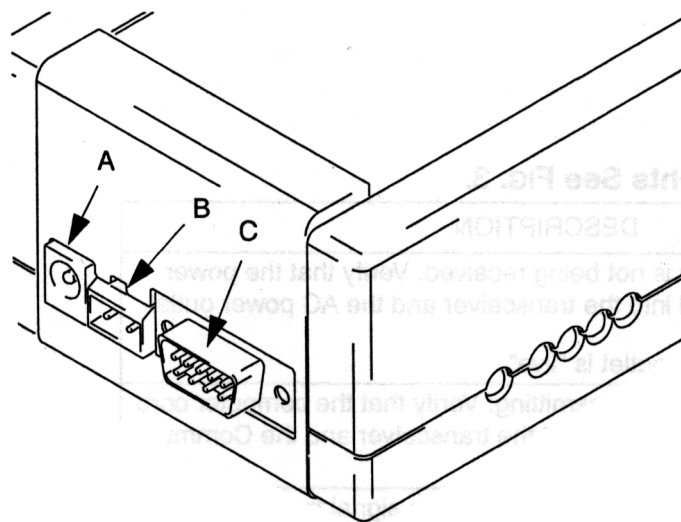
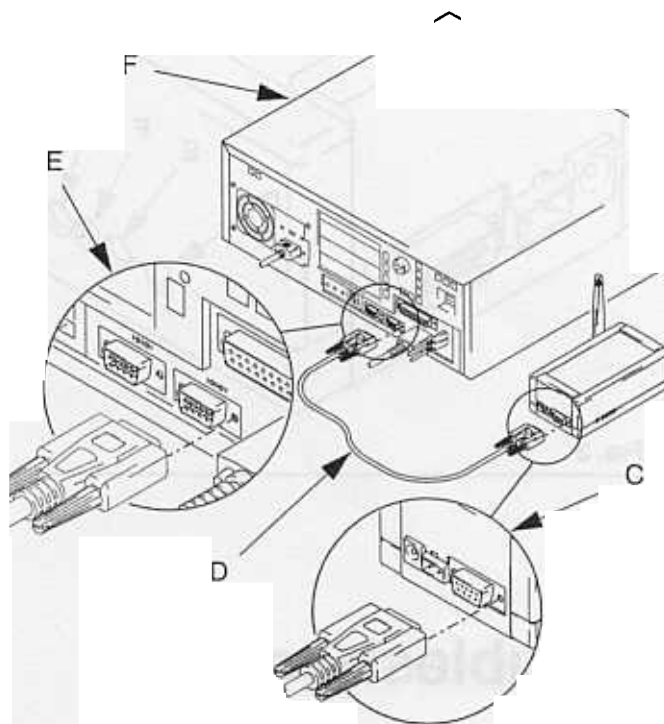

FIG. 1
FIG. 2
Plug the PC Receiver into a 110 VAC grounded outlet and into the power outlet of the repeater or wall buster (A). See Fig. 1.
2. Plug the power cord into the transceiver power inlet (A) and into a grounded 120V AC power source. The green power light (D) will illuminate indicating the transceiver is on. See Fig. 1.
1. Plug the PC (D) cord into an open communications port (E) of the PC (F) running the Matrix software. See Fig. 2.
2. Insert the transceiver end of the cord (D) from the PC into the PC transceiver plug (C). See Fig. 1 and Fig. 2.
**NOTE:** if necessary the wall buster port (B) of the transceiver can be wired to a corresponding transceiver or repeater.